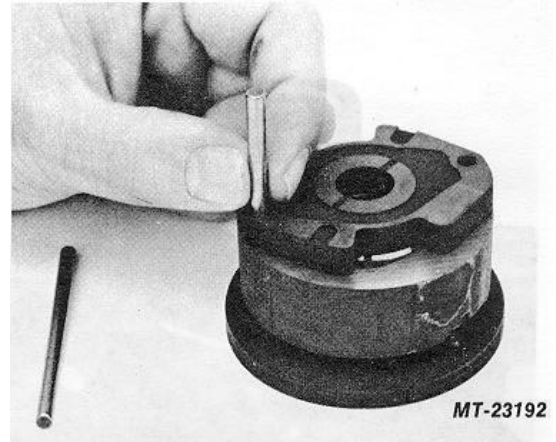
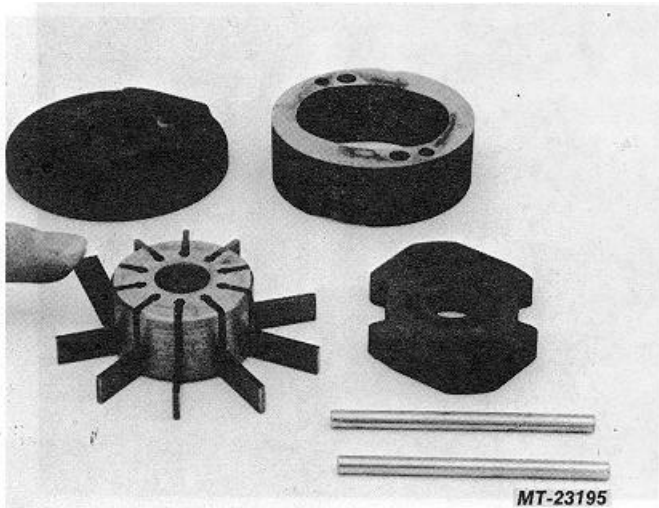

Fig. 13 Remove Dowel Pins
Fig. 16 Remove Vanes From Rotor
11. Disassemble pump rotating group as shown in Figure 13 through Figure 16.